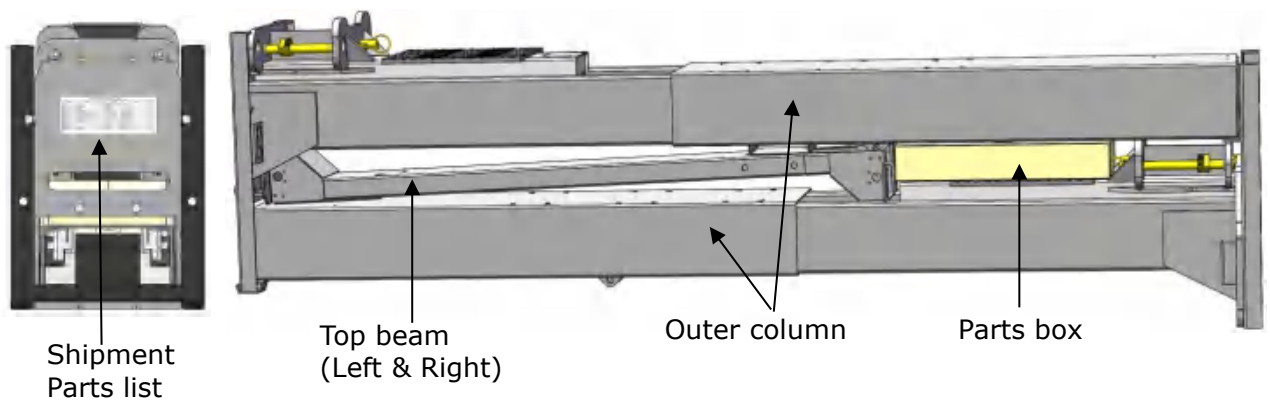

Fig. 11
2. Move the lift aside with a fork lift or hoist, open the package and check the parts according the shipment list. **(See Fig.11)**